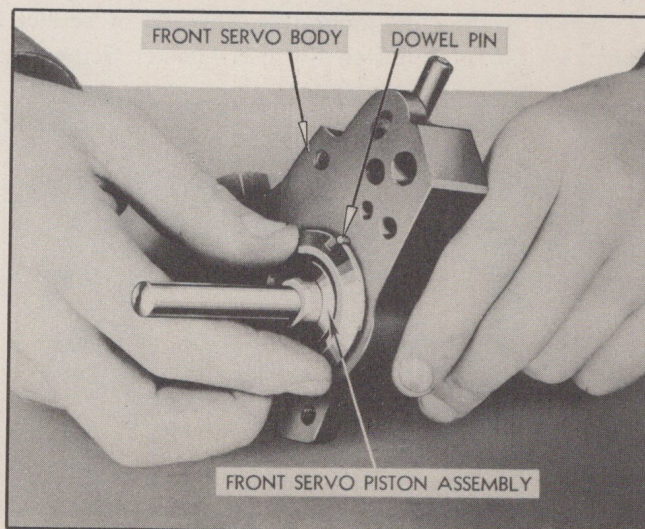

Fig. 281—Installing Servo Piston
5. Install front servo piston assembly into body. Align slot in sleeve over dowel pin (Fig. 281).